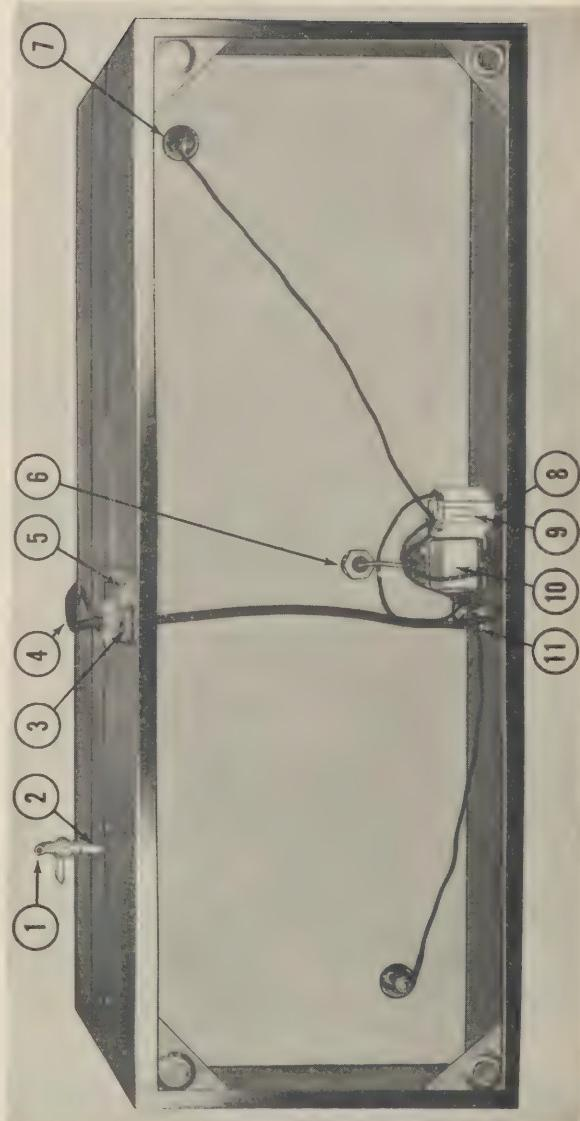
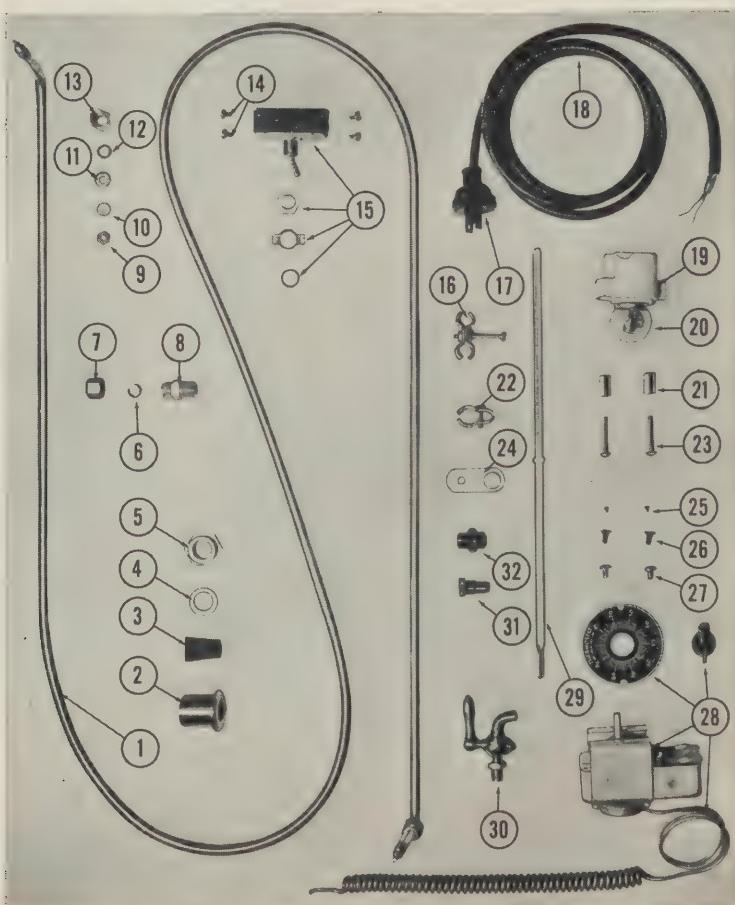
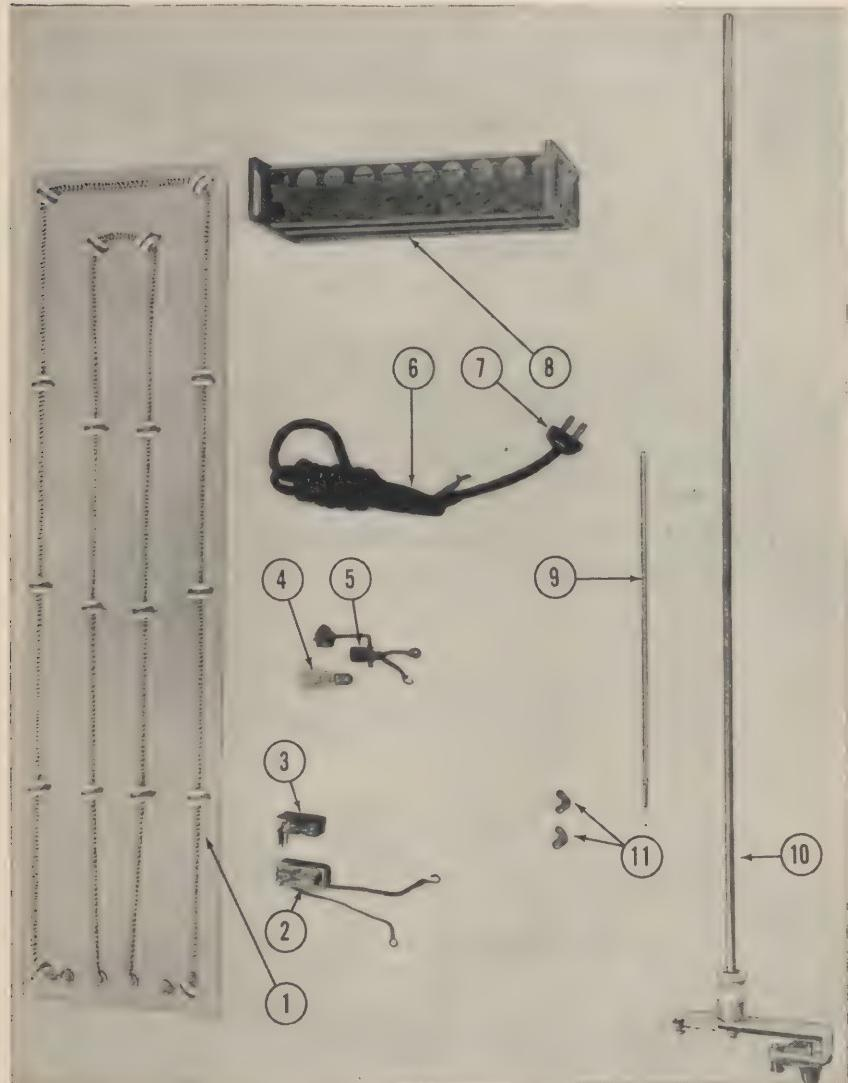

Figure 7. Item No. 4479008, water bath, serological, inactivating, Precision Scientific 'o. Bottom view.
Figure 9. Item No. 4479008, water bath, serological, inactivating, Precision Scientific Co. Identification of parts.
Figure 11. Item No. 4480008, water bath, serological, Wassermann, Gotham Scientific Co.
- a. To replace burned out heater elements. (1) Disconnect the wire leads at the heater terminals by unscrewing the hex nuts, (7) figure 7.
- c. To replace thermostat. (1) Remove wire leads by loosening the two screws holding them.
- (2) Remove the thermostat sensitive bulb from the heater element.
- (3) Unscrew and remove the packing gland nut, (6) figure 7, washer, (4) figure 9, and packing, (3) figure 9.
- (4) Unscrew the set screw on the bottom of the thermostat knob and remove the knob.
- (5) Remove the thermostat dial.
- (6) Remove the two flat head screws located under the dial.
- (7) Thermostat mechanism can now be removed from the front panel.
- (8) Slide the capillary tube and sensitive bulb through the packing gland (figs. 9 and 10) in the bath bottom.
- (9) To reassemble, reverse disassembly procedure.
- d. To replace heater switch. (1) Disconnect the wire leads to the switch by loosening the four screws holding them.
- (2) Unscrew the hex nut on the front of the switch.
- (3) Remove the "on and off" plate.
- (4) Drop the switch from the front panel.
- (5) To reassemble follow the reverse procedure.
- a. To replace heater elements, (1) figure 11. (1) Remove the place of insulation from the bottom of the bath by removing the ten wing nuts, (11) figure 11, holding it in place.
- (2) Remove the wire leads located under the plate of insulation.
- (3) Drop the heating element from the bottom of the bath by prying the mounting plate out of its keeper first along one side then the other. Use a screw driver or similar tool for this operation.
- (4) Replace with new heating element.
- b. To replace pilot lamp bulb. (1) Unscrew the bulb, (4) figure 11, from its base.
- (2) Replace with new bulb.